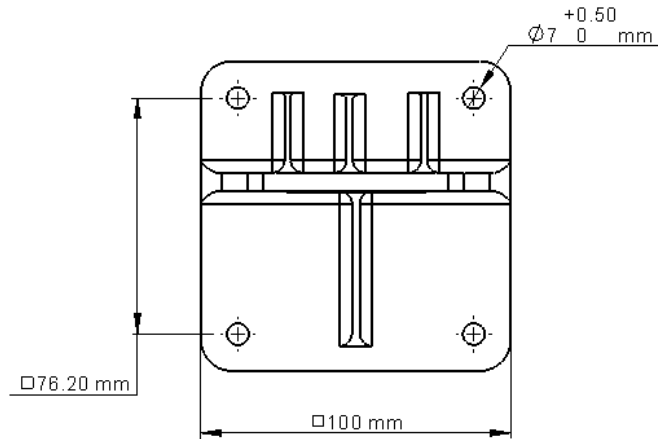

Figure 13: Tilt Mount Base - Plate View
- a) Mount the tilt mount base (Figure 13) to a solid structure using four suitable fixings through the four 7mm (0.28") diameter holes. Four captive screws with spring washers are provided in the tilt mount.
Referring to Figure 13, use the following steps to connect the detector to the tilt mount: